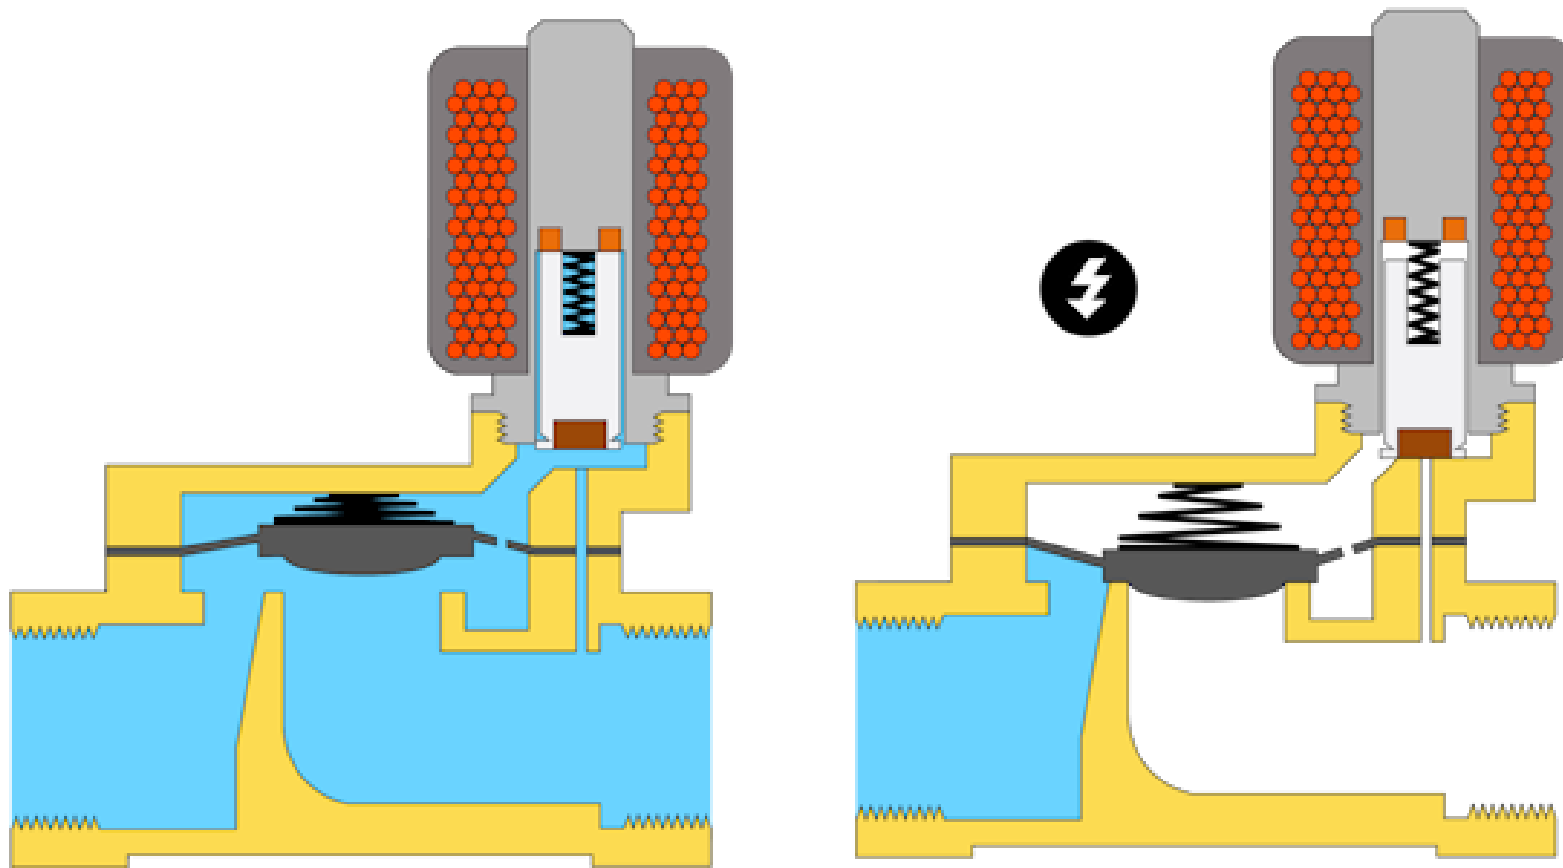

Figure 4: Operating principle of normally open solenoid valve: de-energized (left) and energized (right).
- A normally open (NO) solenoid valve is open when de-energized, allowing the media to flow through it.
- Figure 4 shows the operating principle of a normally open solenoid valve in the de-energized and energized states.